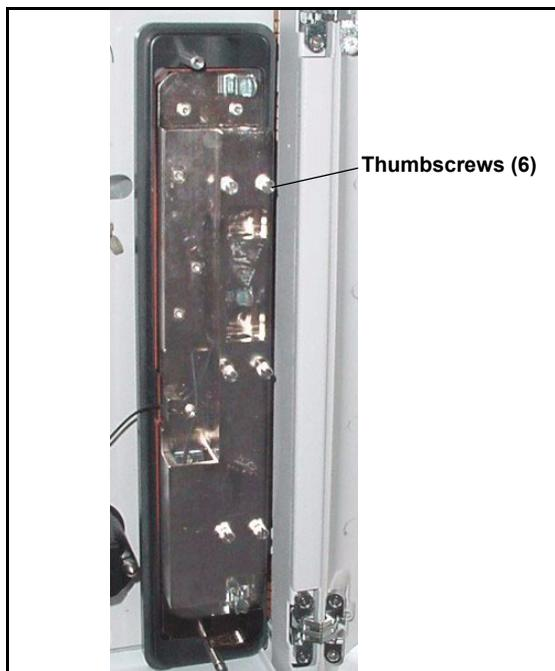

Figure 5-20. ICS-2000 Column Heater Cover Removed
- c. Unscrew the six thumbscrews on the top metal plate (see Figure 5-20) and remove the plate.